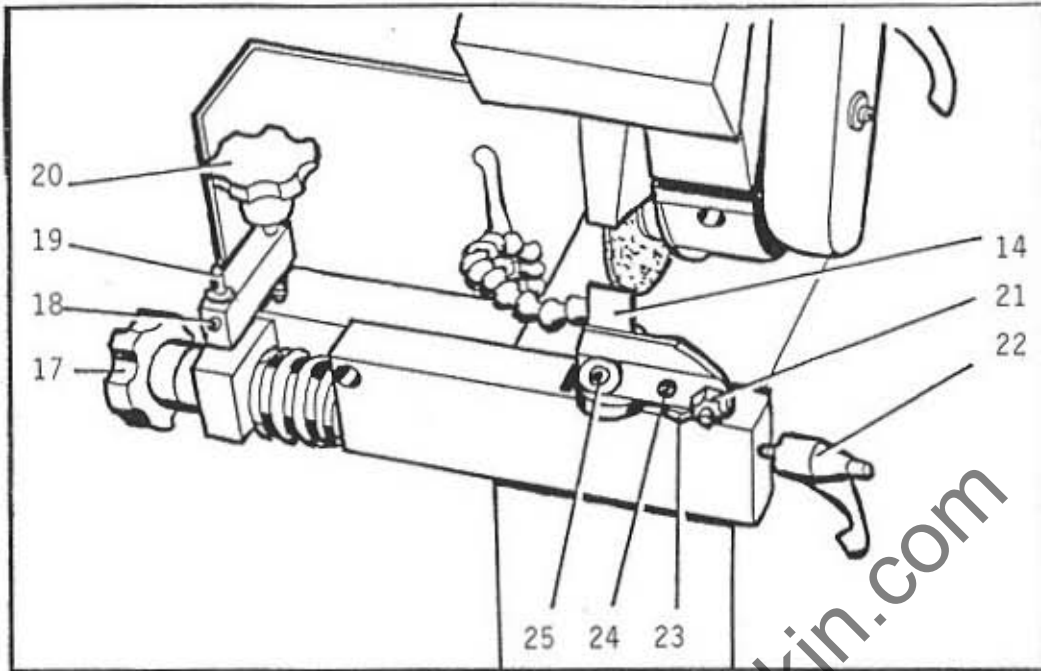

Fig.6
STYLUS ADJUSTMENT - (Figs. 6,7, & 8)
DRESSING THE GRINDING WHEEL (Figs. 6, 12-19)
The diamond is mounted on the arm of the cutter support (See Fig.6). To use the dresser, partially release screw (25) and swivel the arm through 90 degrees so that the diamond (21) is central to the grinding wheel before securing. When reverting to grinding, partially release screw (25), and swivel the assembly back until the levelling screw (23) seats properly. Check that the assembly is square-on to the grinding wheel by ensuring that the centre mark is opposite the pointer, or that the dresser support is parallel to the milled face below it before finally securing screw (25) and handlever (22).